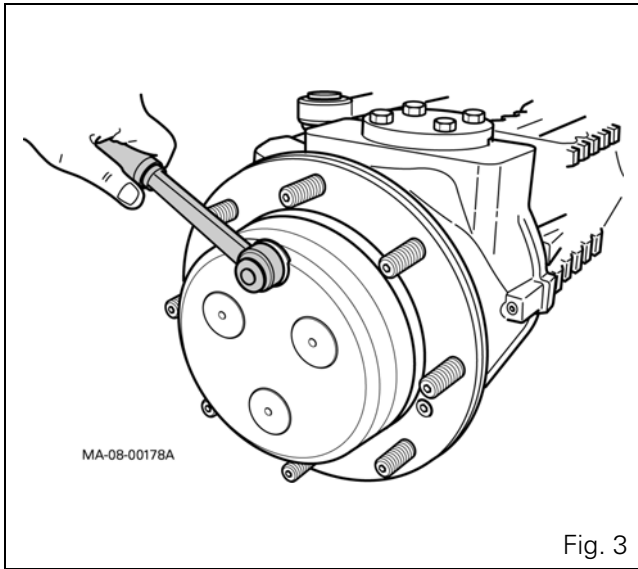

Fig. 3
7. Before draining the oil, position the wheel hub with the plug at its highest point and loosen it several turns to release any internal residual pressure, then loosen it completely (Fig. 3). Turn the hub again to position the plug at its lowest point. Completely drain the oil.